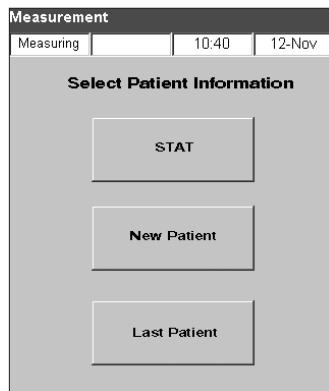

Figure G-4: Measurement > Select Patient Information screen
- Tap the **STAT**, **New Patient** or **Last Patient** button (Figure G-4).